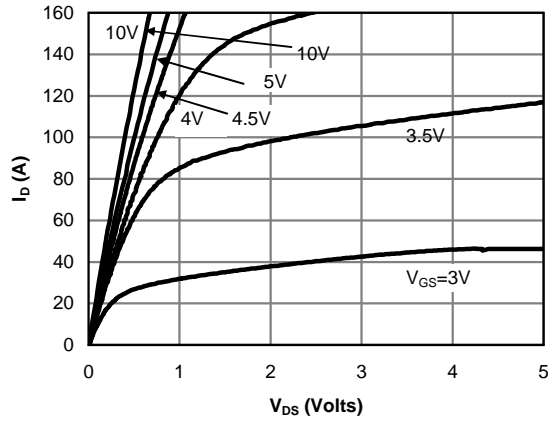

Fig 1: On-Region Characteristics (Note E)
E. The static characteristics in Figures 1 to 6 are obtained using <30μs pulses, duty cycle 0.5% max.